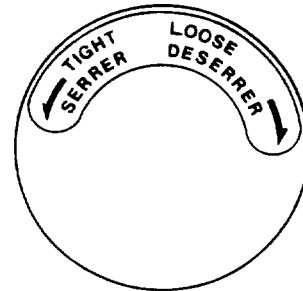

FIGURE 19.
4. If it is necessary to add fluid, unscrew the cap on the expansion tank. The cap has left hand threads. See figure 19. **Remove the rubber bladder.** Add fluid using a funnel. Do not overfill.